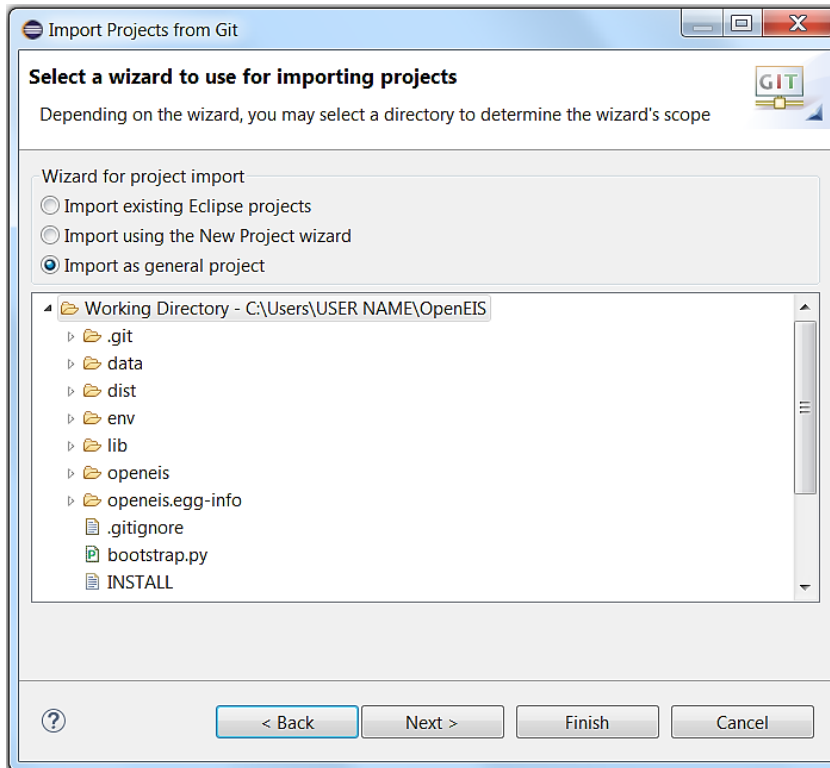

Figure 17: Importing OpenEIS with Eclipse from Local Source (continued)
6. Choose Import as general project and click Next -> Finish, the project will be imported into the work space (Figure 17)